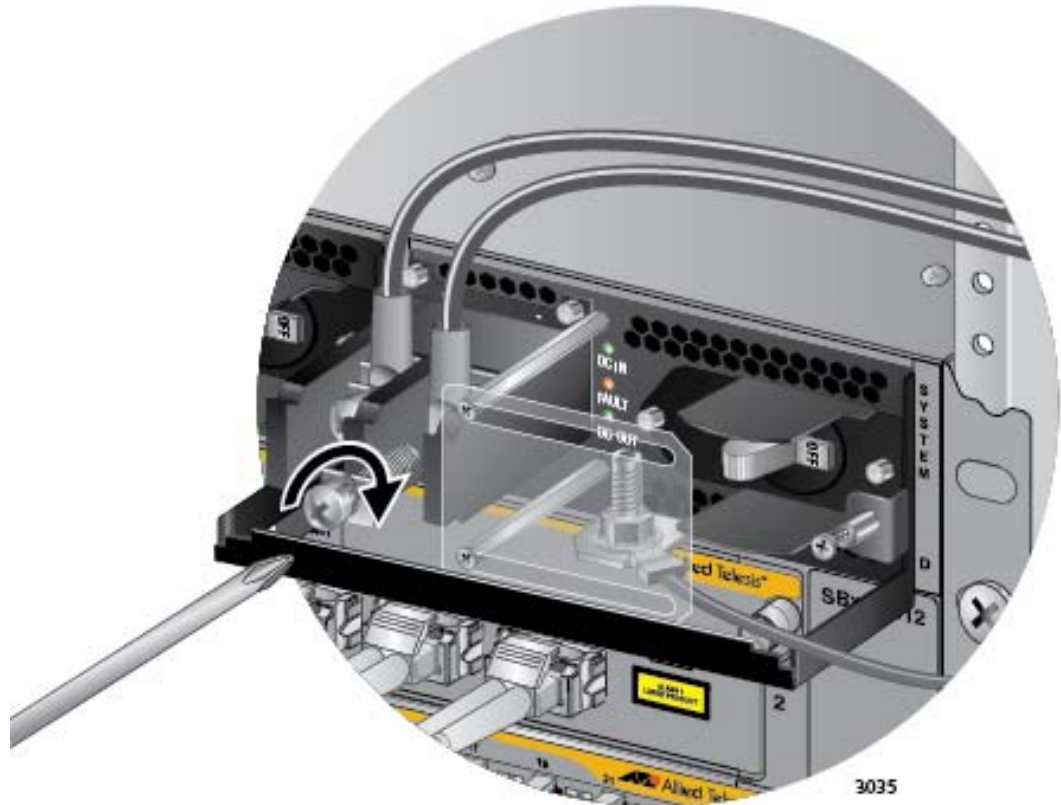

Figure 135. Connecting the Negative (-) Power Wire with a Straight Terminal
7. With a #3 Phillips-head screwdriver, connect the negative (-) power lead wire to the negative terminal on the power supply, with the remaining terminal screw removed in step 5. The negative terminal is on the right. You may attach the terminals with the wires either above or below the terminal block. Figure 135 on page 209 shows the wires above the terminal block.